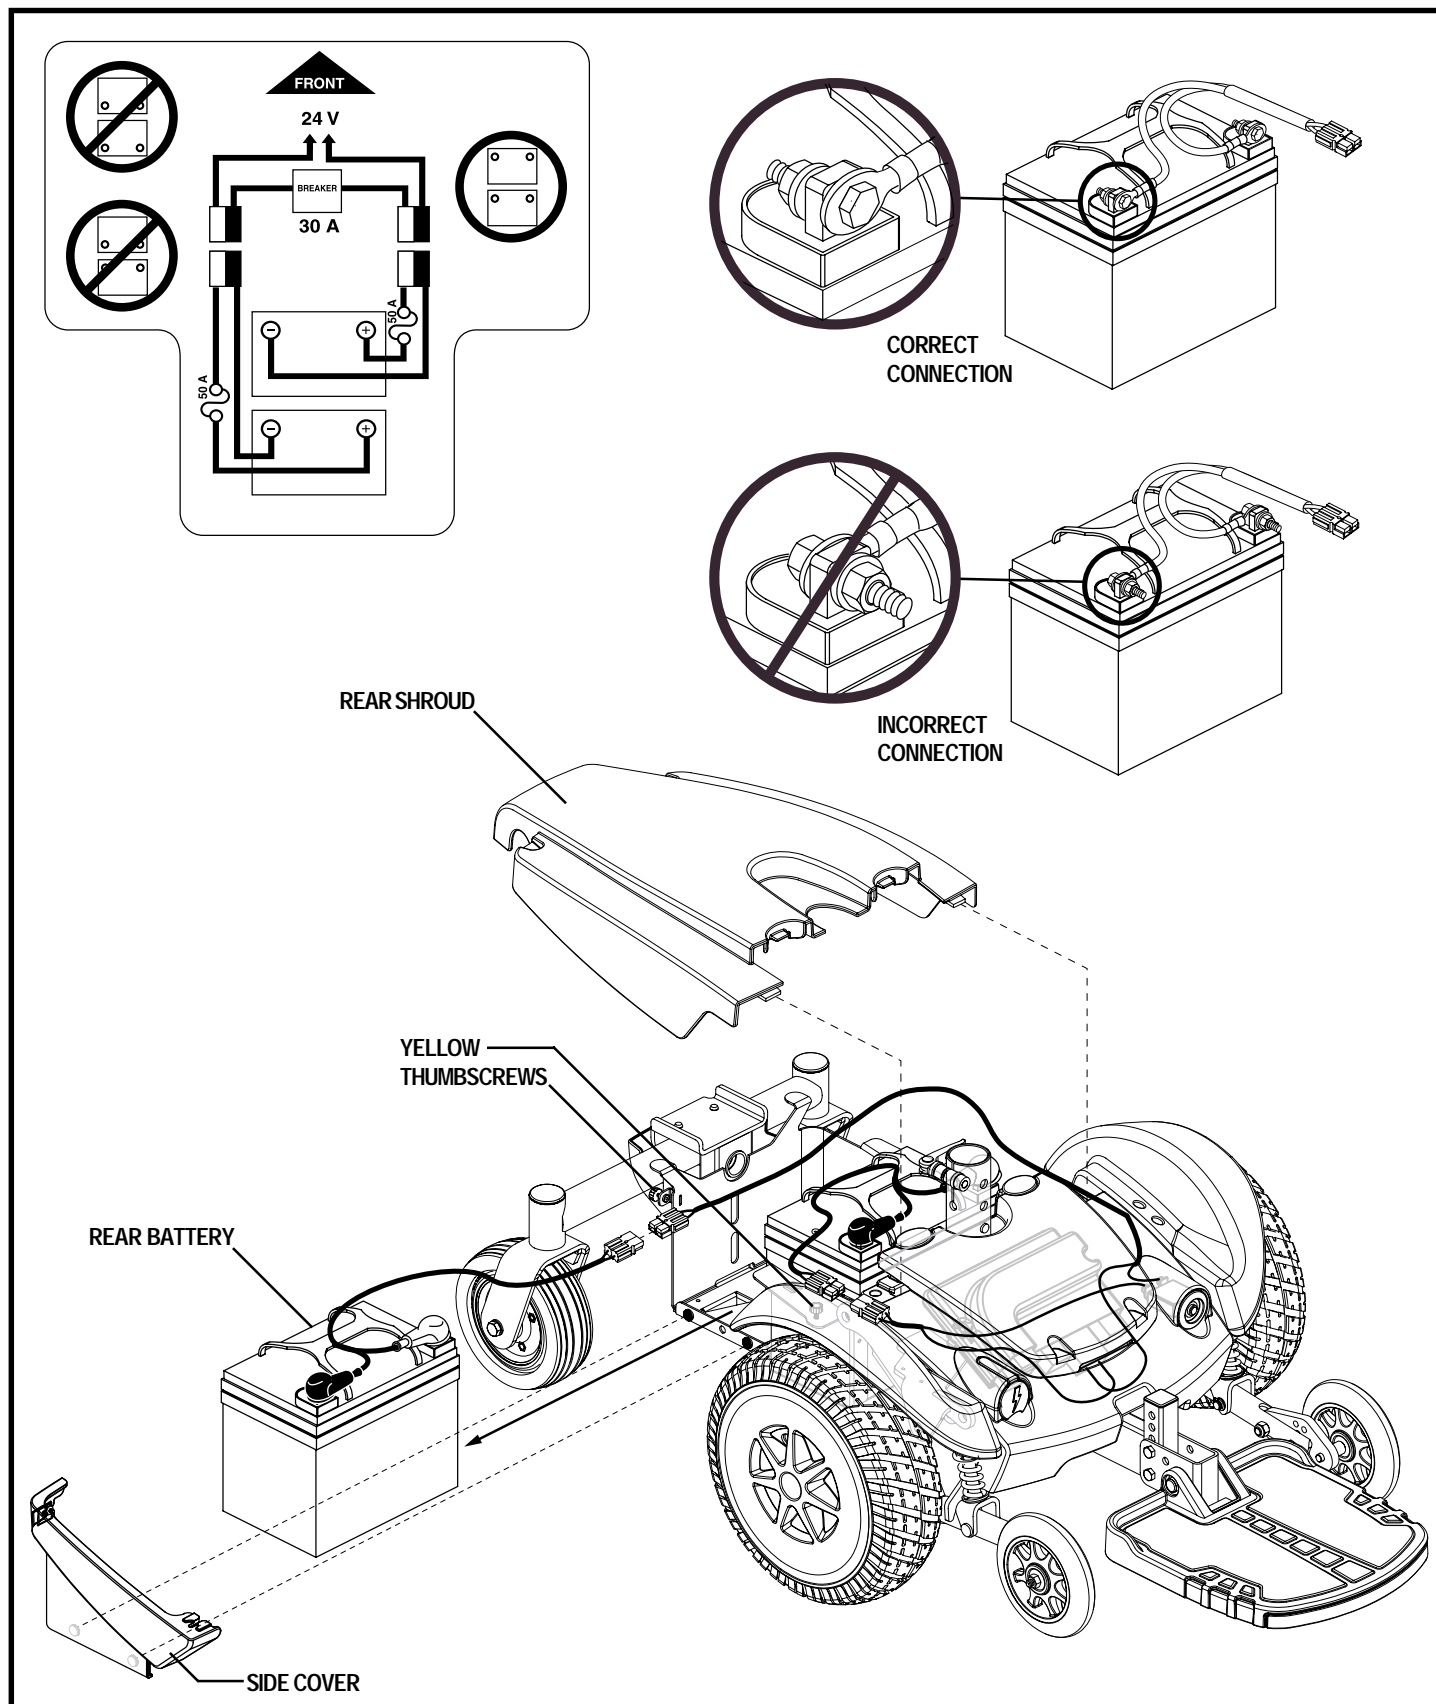

Figure 25. Battery Installation (Seat Removed for Clarity)
- Check all electrical connections. Make sure they are tight and are not corroded. Batteries must sit flat within the battery tray, with the battery terminals facing forward, toward the front of the power chair. Refer to the battery wiring label for the correct wiring layout. See figure 25.
3. Remove the rear shroud. See figure 25.
5. Disconnect the rear battery harness from the power base. See figure 25.
8. Disconnect the front battery harness from the power base. See figure 25.
10. Remove the battery harnesses from the old batteries and install them onto the new batteries. Make sure that the hardware is facing the correct direction. See figure 25.
11. Place the front battery into the power base. Make sure that the terminals are facing the front of the power base. See figure 25.
14. Place the rear battery onto the power base. Make sure that the terminals are facing the front of the power base. See figure 25.